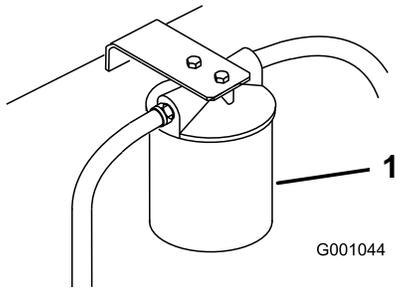

Figure 73
- Place drain pan under filter, remove the old filter and wipe the filter adapter gasket surface clean (Figure 73).